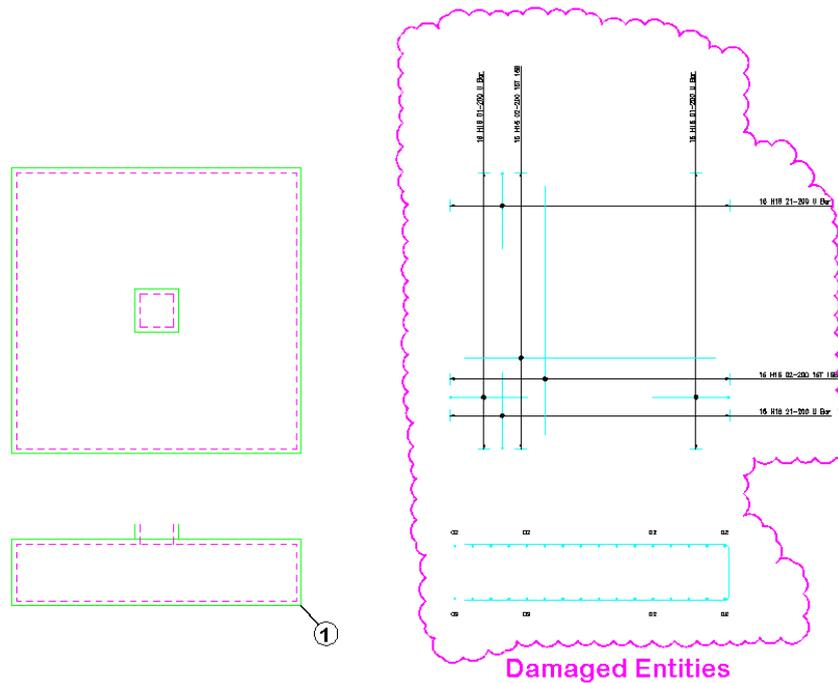

Figure 8.2.2:2 Damaged RebarCAD Entities identified by the Check Database command
- Select objects: Specify base point or displacement:* Pick point 1 as shown on figure 8.2.2:2 below